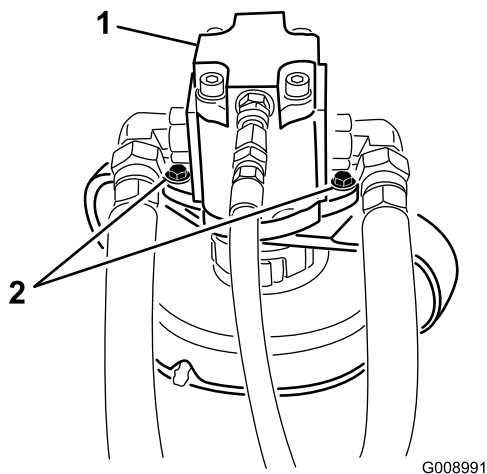

Figure 82
4. Remove the bolts securing the hydraulic motor to the cutting unit (Figure 82). Lift the motor off of the cutting unit and lay it on top of the cutting unit.
2. Remove the bolts securing the hydraulic motor to the cutting unit (Figure 82). Lift the motor off of the cutting unit and lay it on top of the cutting unit.